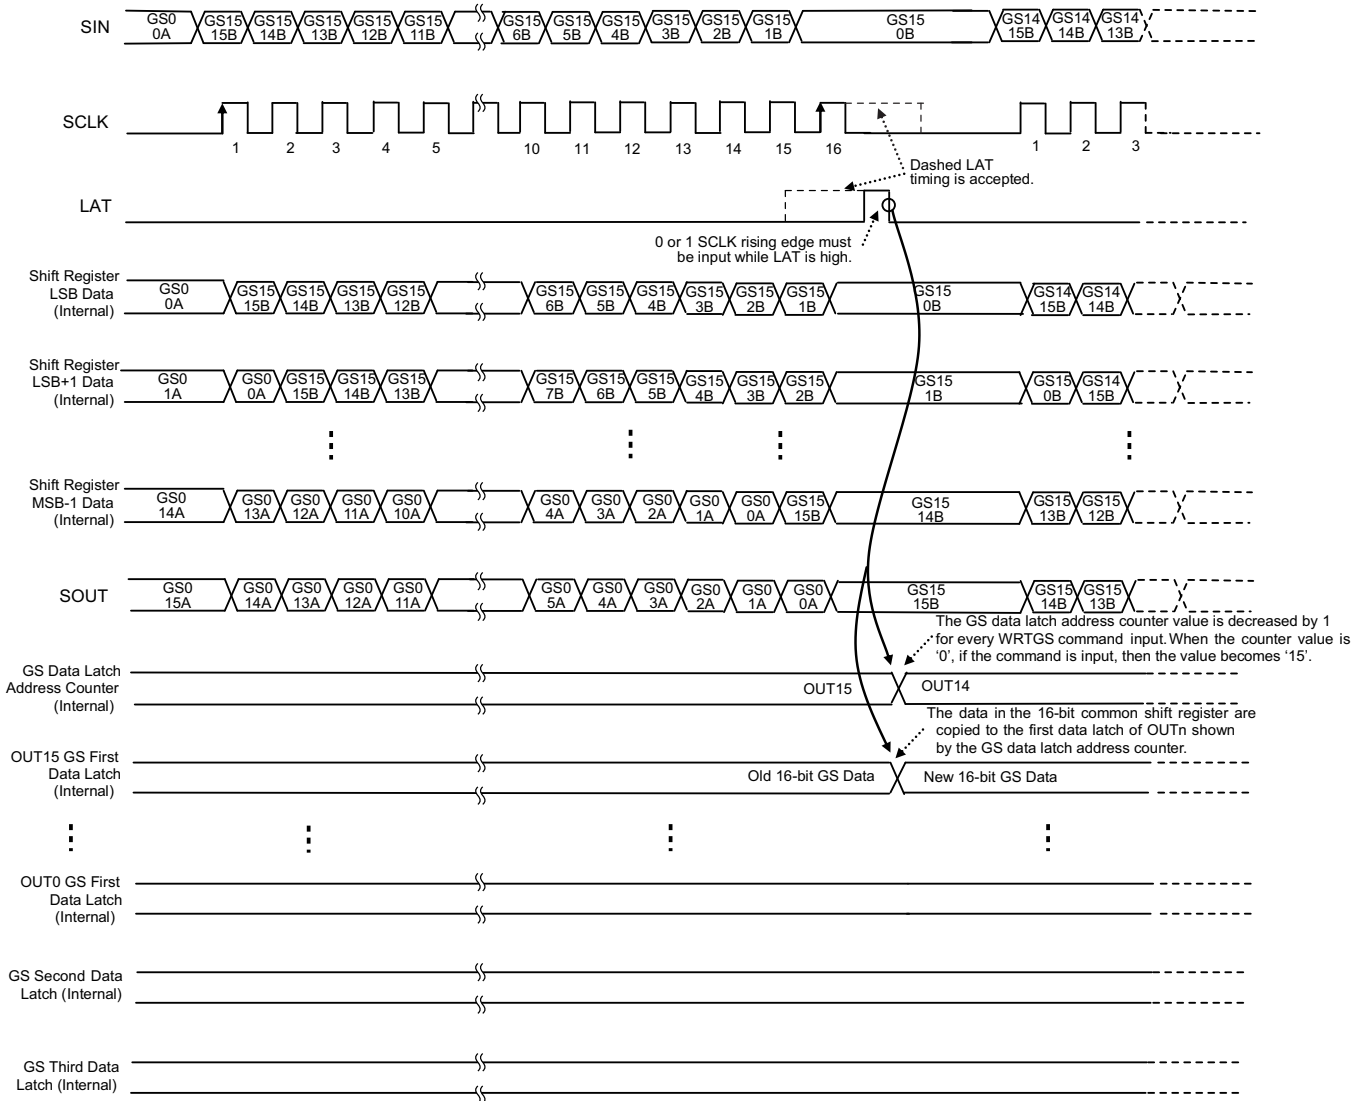
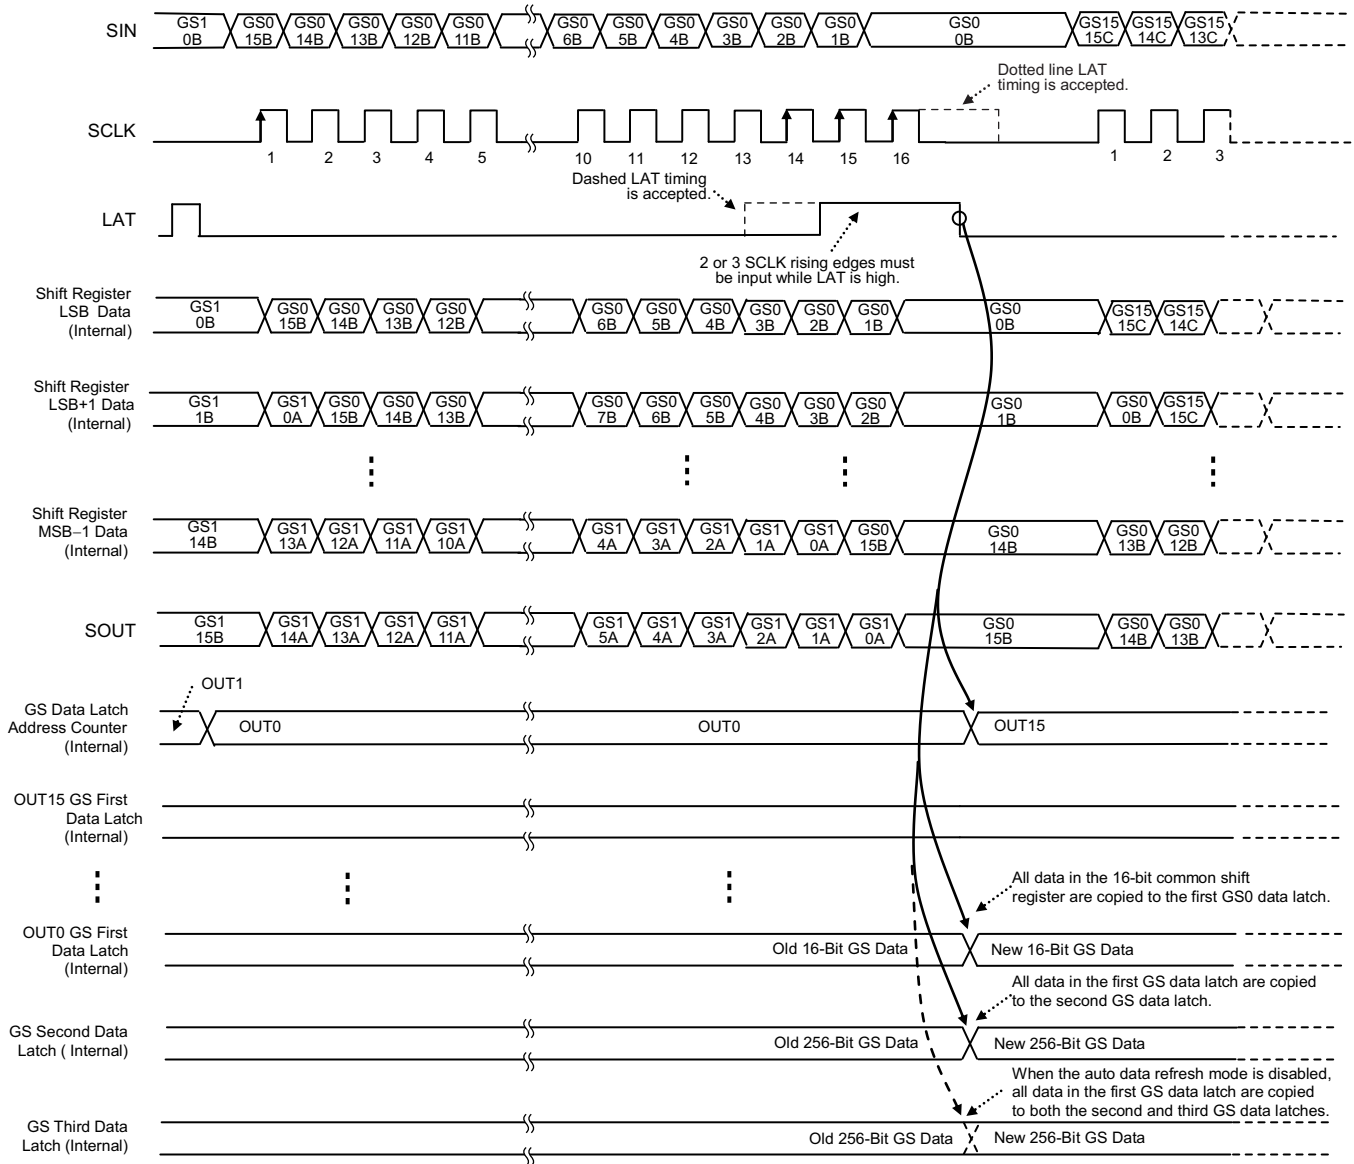

Figure 22. 16-Bit GS Data Write (WRTGS) Command
Figure 23. 256-Bit GS Data Latch (LATGS) Command (LATMODE = 0)
The first, second, and third grayscale (GS) data latches are each 256 bits long, and set the PWM timing for each constant-current output. The on-time of all constant-current outputs is controlled by the data in the third GS data latch. The 16-bit data are copied to the first GS data latch indicated by the GS data latch address counter when the WRTGS command is input. The 256-bit GS data for OUTn in the first data latch are copied to the second GS data latch when the LATGS command is input. The 256-bit data in the second data latch are copied to the third GS data latch when the 65,536th GSCLK occurs with the XRFRESH bit in the FC data latch set to '0'. When the XRFRESH bit is '1', the 256-bit data in the first data latch are copied to the second and third data latch at the same time. When the device powers up, all constant-current outputs are forced off until GS data are written to the third data latch. The GS data write sequence is shown in Figure 22 and Figure 23.